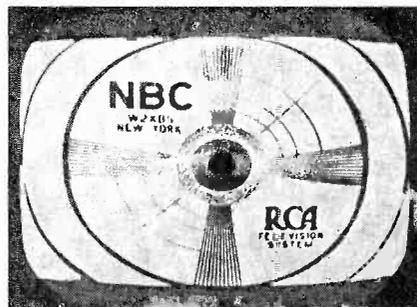

Fig. 10 A test pattern illustrating the effect of an incorrectly set vertical size control.
*Vertical Size Too Large or Small.* Adjust the vertical size control until the correct size is obtained. See Fig. 10 for an example of an incorrectly set size control.